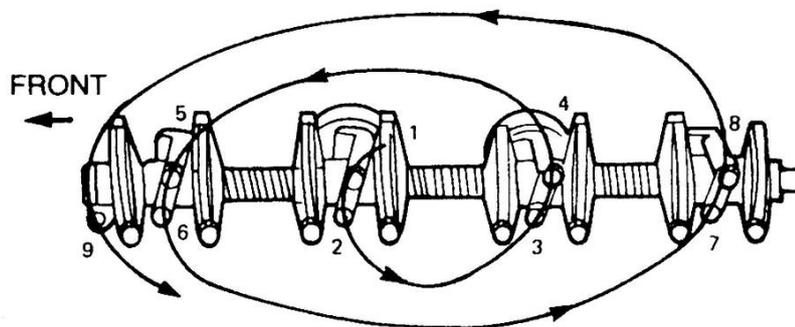

Figure 27 Rocker Shaft Assembly - Tightening Sequence
- m. Position the rocker shaft assembly on the cylinder head and install the nuts, bolts and washers. Torque them to 20 to 30 N.m (15 to 22 lbf.ft) in the sequence shown (Figure 27).
- f. Position the rocker shaft assembly on the cylinder head and install the retaining bolts, washers and nuts. Torque the bolts and nuts to 20 to 30 N.m (15 to 22 lbf.ft) in sequence (Figure 27).